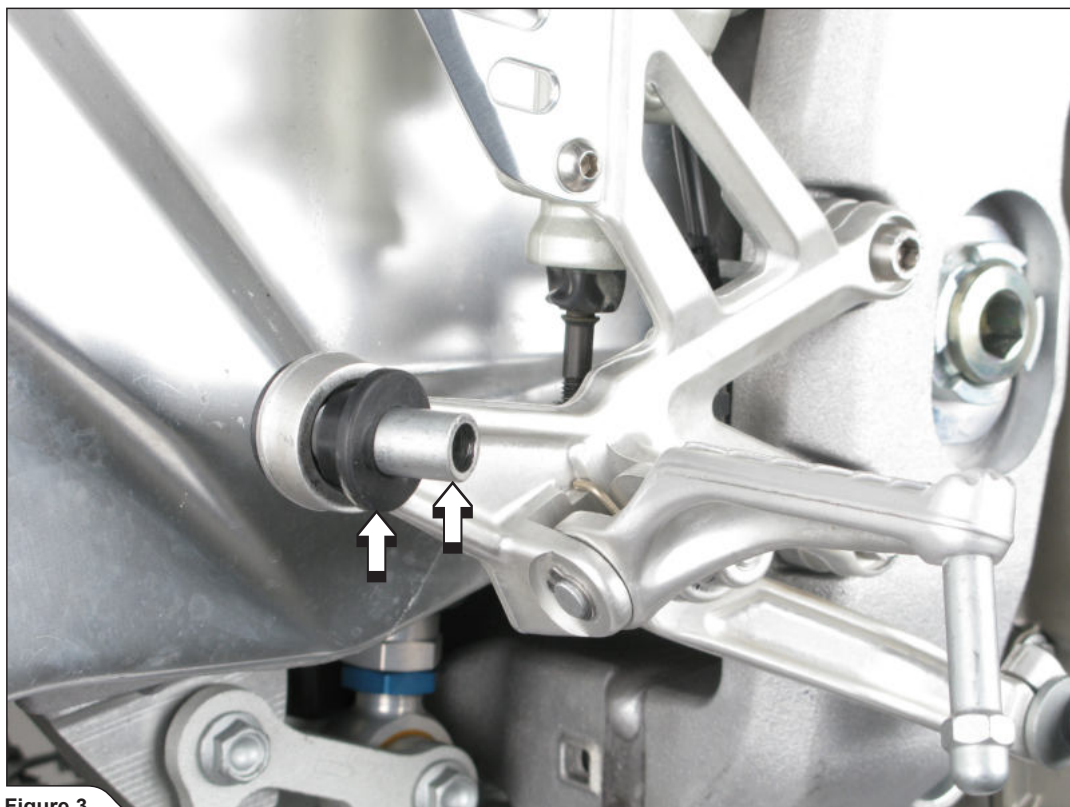

Figure 3
3. Remove the metal collar and rubber damper from the muffler hanging bracket (Figure 3, 4).